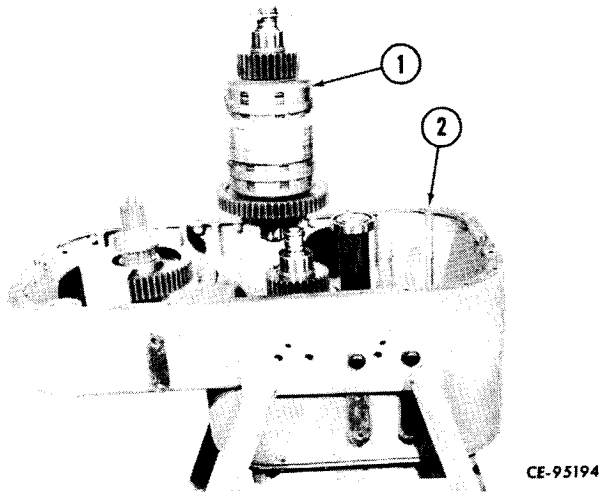

Figure 4-62
Attach lifting tool to second and fourth range clutch pack (1, Fig. 4-62) (pack with one large and one small gear on input end). Lower clutch pack into transmission housing (2).